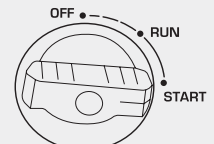

Fig. 2
- To start KS 2100iG S, KS 3100iG S models, turn the Multifunctional engine switch to the „START“ position (fig. 2). Pull the handle of manual starter until a slight resistance is felt, then pull it relatively sharply. Slowly return the handle manual starter by hand, do not release it abruptly. Turn the Multifunctional engine switch to the „RUN“ position (fig. 2).